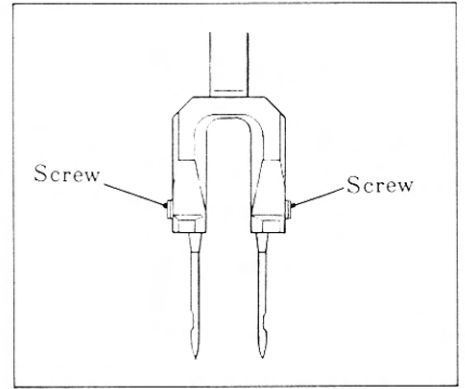

Figure 1
1. Installing Needles (Figure 1)